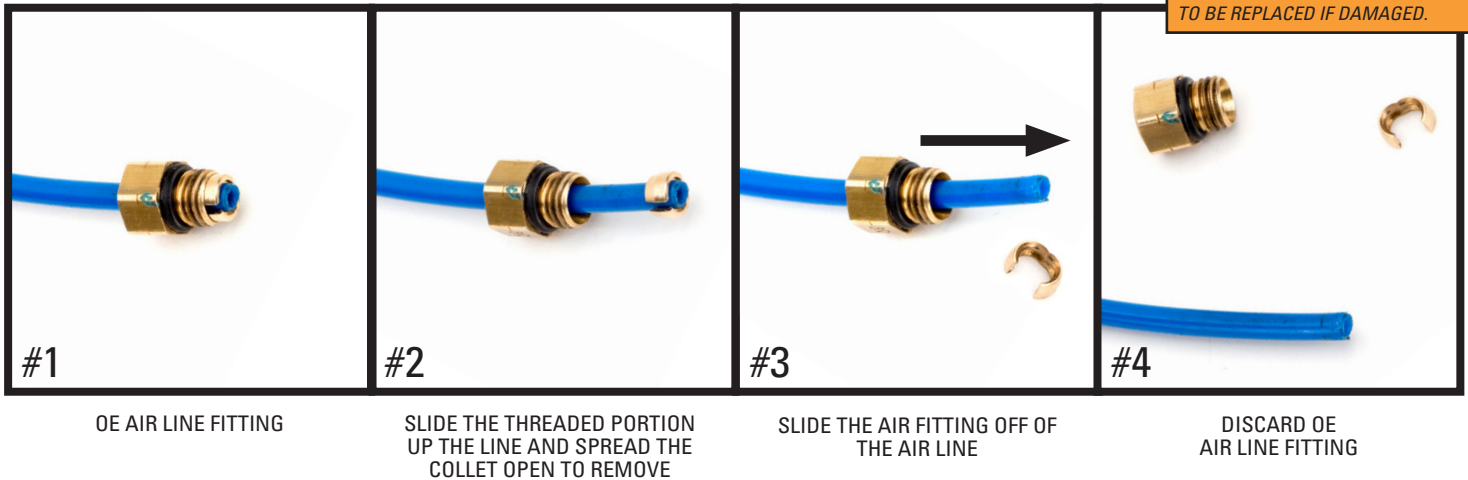

FIGURE 4
4. REMOVE USED AIR LINE FITTING FROM THE AIR LINE AND DISCARD. USE THE FIGURE BELOW AS AN EXAMPLE. (FIGURE 4)